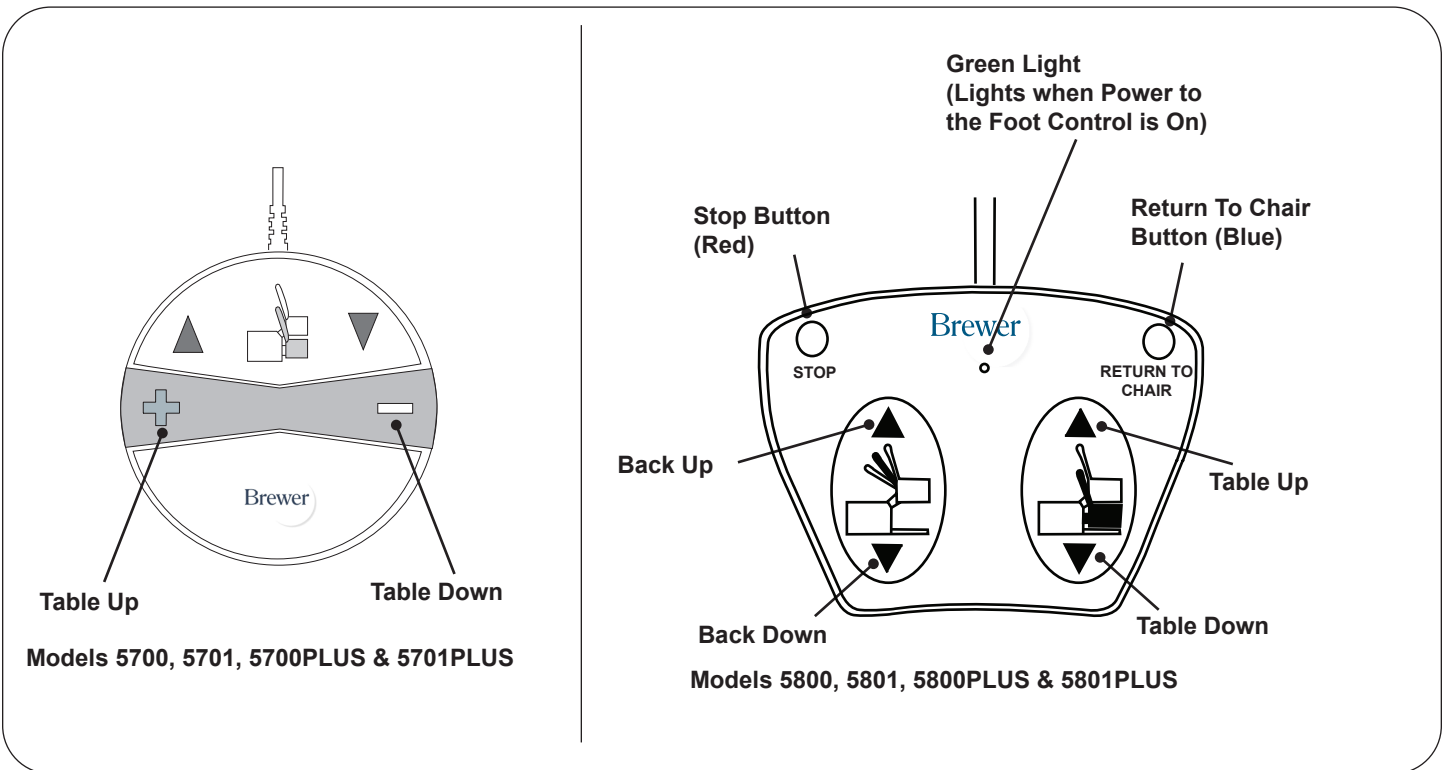
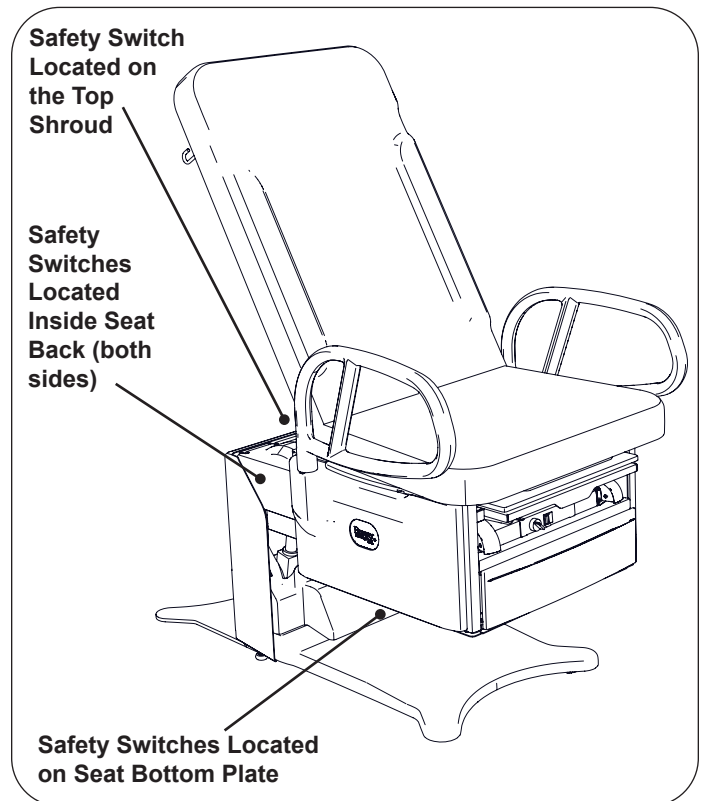

Figure 23. Foot Controls
Figure 24. Seat and Backrest Safety Switches
All models are equipped with switches on the seat bottom (Figure 24) which automatically stop the lowering function of the seat if the seat bottom plate comes into contact with an object as the seat is lowering. To continue lowering the seat, press the "TABLE UP" pedal (Figure 23), clear the obstruction, and continue lowering the seat.
All models are equipped with a switch on the top shroud (Figure 24) which automatically stops the lowering function of the seat and back if the switch is contacted by the backrest. To continue lowering the seat:
- **Models 5800, 5801, 5800PLUS & 5801PLUS** Depress the “BACK UP” pedal (Figure 23) to clear the switch. When clear of the switch, continue lowering the seat.